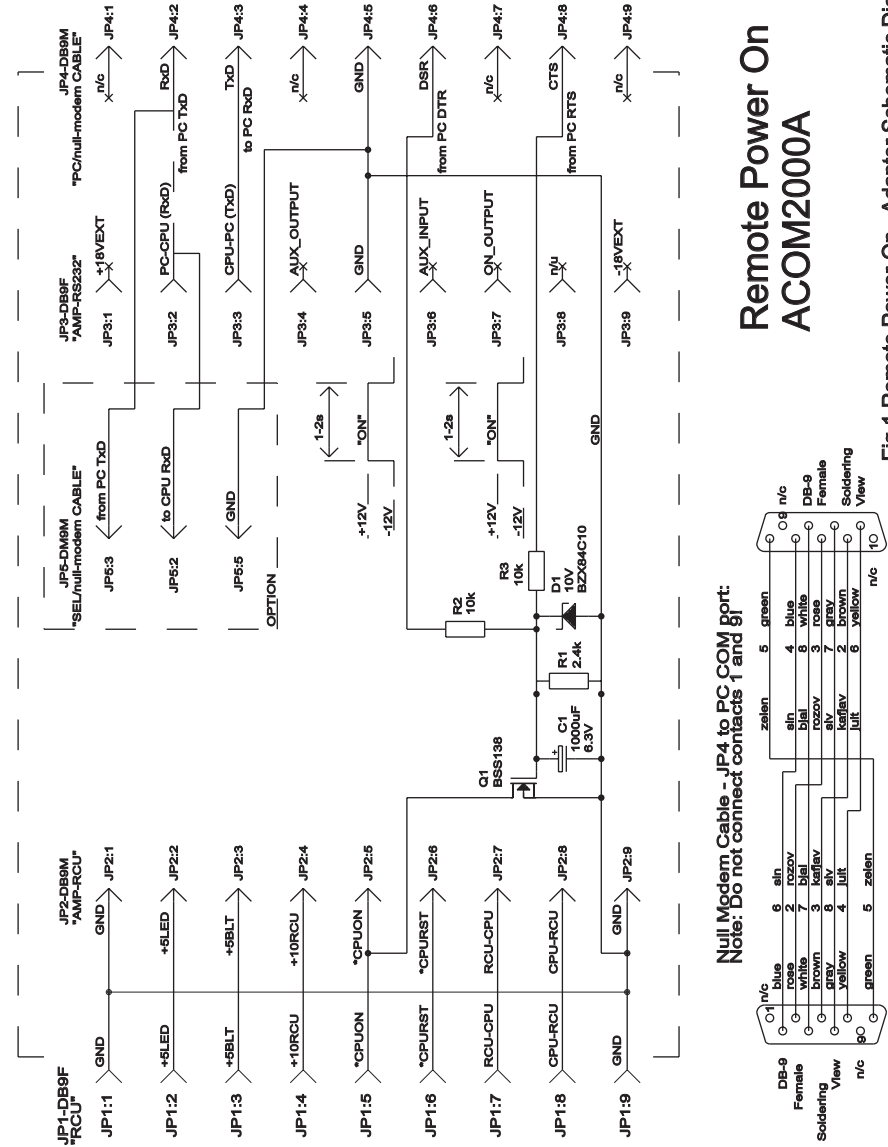

Fig.1 Remote Power-On - Adapter Schematic Diagram
1. The "Remote Power ON" adapter (look at the schematic diagram in fig.1 below) should be connected to both DB-9 connectors located on the amplifier rear panel. The RCU and the null-modem serial cable from the PC serial port COM1 (or COM2) should be connected through the respective adapter connectors to the amplifier.